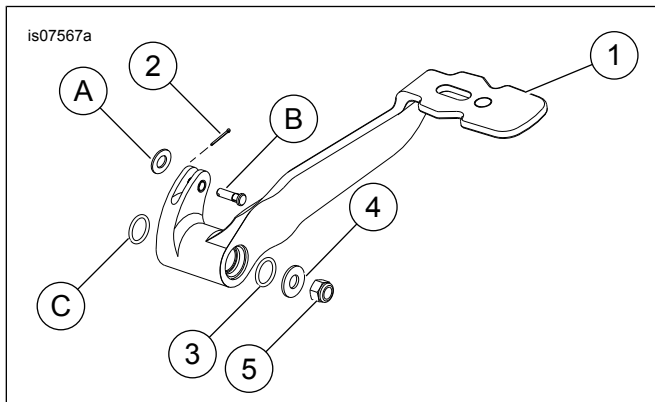

Figure 1. Service Parts: Rear Brake Lever (Typical Shown)
See Figure 1 and Table 1.
1. See Figure 1. Remove the cotter pin and washer (A) from the master cylinder clevis pin. Discard the cotter pin.
1. See Figure 1. Insert **new** O-rings (3) on either side of the lever bushings. Install the new billet style brake lever (1) onto the shaft.
2. Align the holes in the lever and brake rod and insert the stock clevis pin (B).
3. Install the small saved flat washer onto the clevis pin. Insert the new cotter pin (2).
4. Install the large flat washer (4) and locknut (5) from the kit. Secure locknut. Tighten.